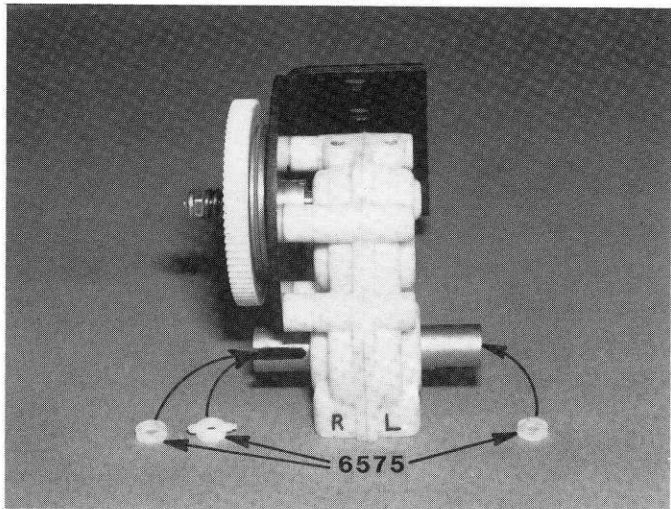

Fig. 77
□ **Fig. 77** From Bag A install one of the thick #6575 nylon washers inside the left hand #6578 outdrive hub, pushing it all the way in. And then install the plastic spacer with the two ears and the 2nd thick nylon washer in the right hand #6577 outdrive hub. The two ears should go all the way to the bottom of the slots and then they can be trimmed off as in fig. 42. These washers and spacer are very important for correct dogbone spacing.